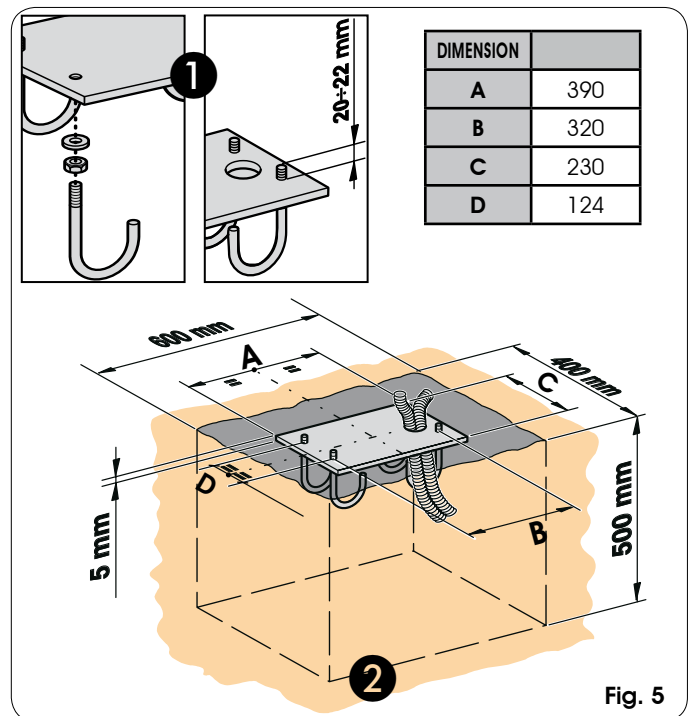

Fig. 5
- 1) Assemble the foundation plate as in fig.5. ref. ①
- 2) Make a foundation plinth as shown in fig.5 ref.② (with reference to clayey soil)
- 3) Wall the foundation plate as in fig.5. ref.② supplying one or more sheaths for routing electrical cables. Using a spirit level, check if the plate is perfectly level. Wait for the cement to set.